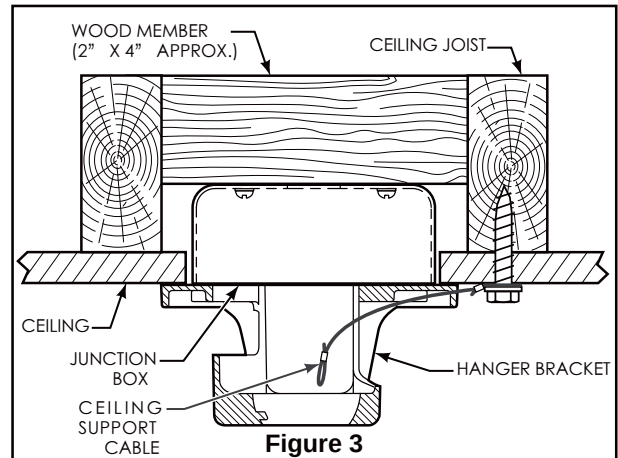

Figure 3
- ☐ 1. Using the $\frac{3}{8}$ " x 2" lag bolt and flat washer, attach safety cable to ceiling joist or wood structural member. The lag bolt will pass through the flat washer, safety cable loop, and into the building structure (Figure 3). You will first drill a $\frac{1}{4}$ " pilot hole into the building structure to prevent splitting or cracking.
NOTE: Ceiling support cable cannot be secured to junction box only, it must be directly secured to ceiling joist or structural member using the $\frac{3}{8}$ " x 2" lag bolt and flat washer. (Figure 3)